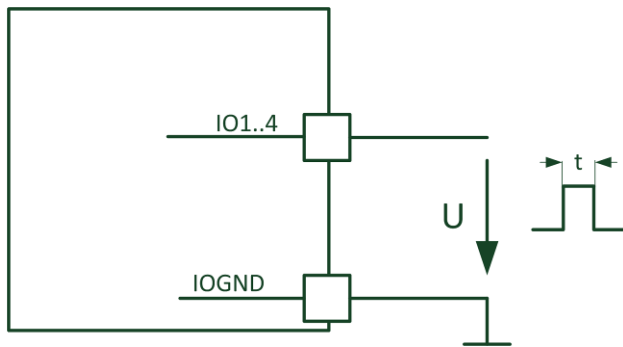

Figure 15: Pulse input
5. Enter the parameters shown in Figure 15 and click *“OK”* to confirm your selection.”